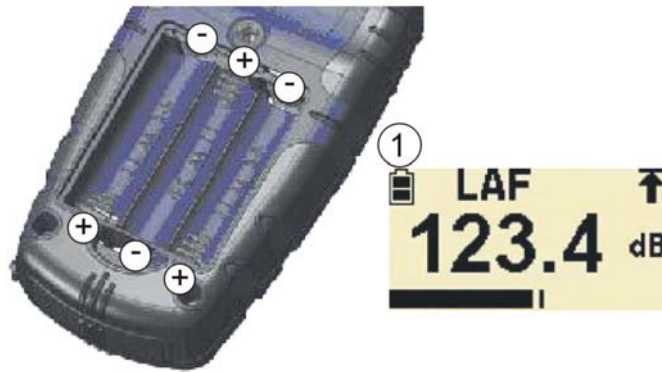

Figure 2: Fitting Batteries
**PROCEDURE** (Refer to Figure 2)